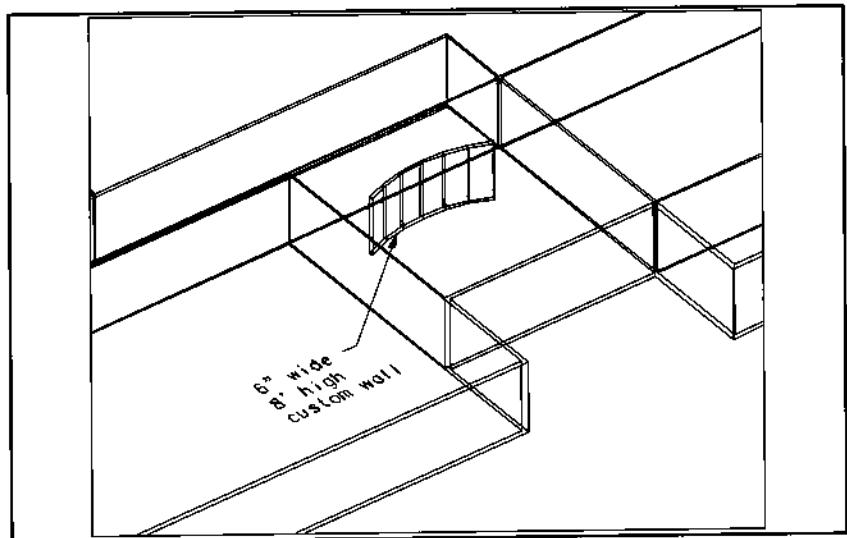

Figure 37.
8. An isometric view of the custom wall is shown in Figure 37.